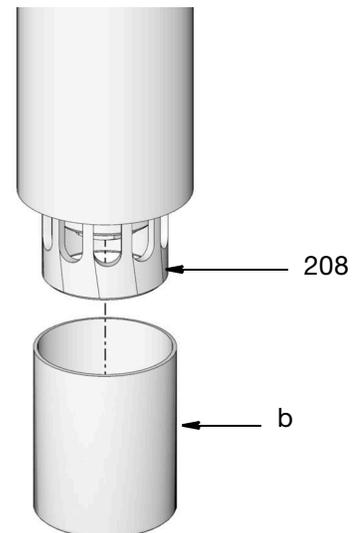

FIG. 5
4. HP and HF Models Only: Remove and discard protective cap (b) from end of pump down tube (208) (FIG. 5).